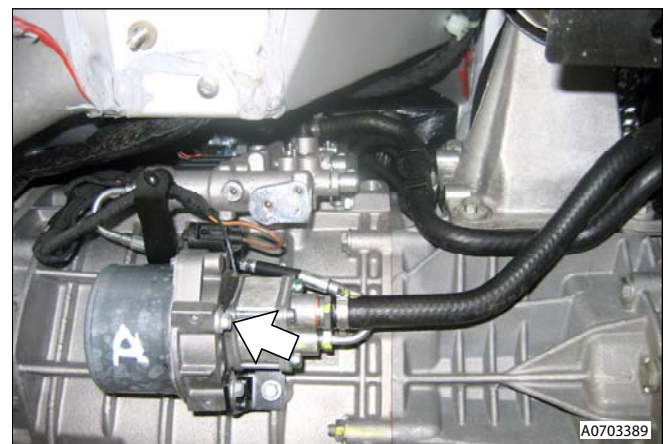

Figure 2
- Remove ground eye from pump body (bolt x1) (see Figure 2).